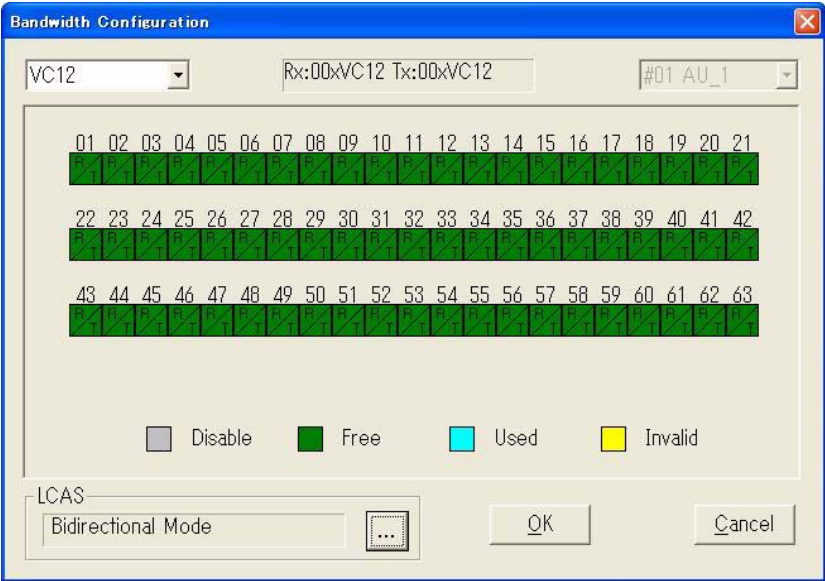
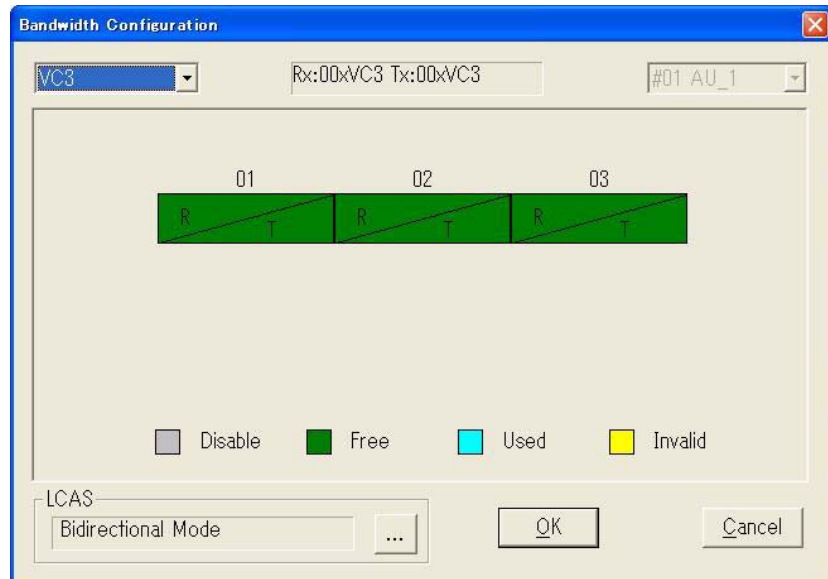

Fig. 4-4-88 VC12 Bandwidth Configuration Dialog Box
Fig. 4-4-89 VC3 Bandwidth Configuration Dialog Box
- 1 Double click a row of record then **Bandwidth Configuration** dialog box of corresponding port will be shown in *Fig. 4-4-88* appears:
- 2 Choose **VC12/VC3** in drop down list box of left upper window. If choosing **VC12**, **Bandwidth Configuration** Dialog box is shown in *Fig. 4-4-88*. If choosing **VC3**, **Bandwidth Configuration** Dialog box is shown in *Fig. 4-4-89*.
- 3 In *Fig. 4-4-88* and *Fig. 4-4-89*, click time slot (TS) number according to requirement.